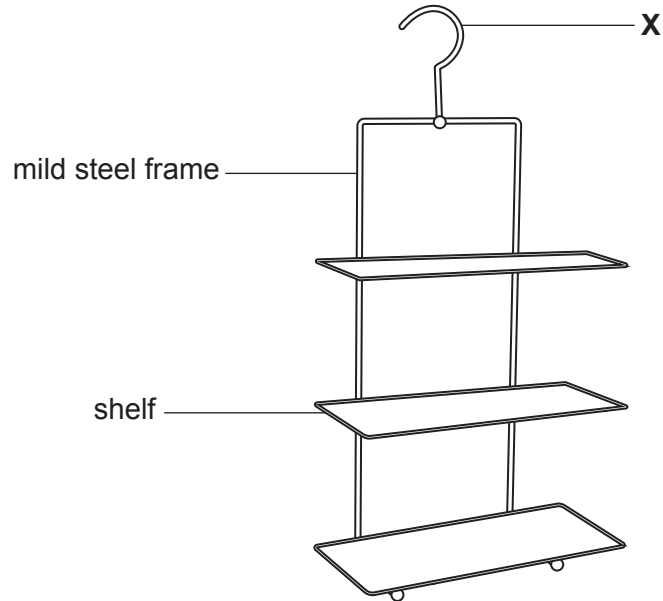

Fig. 4.1
- 4 Fig. 4.1 gives details of a bathroom rack.